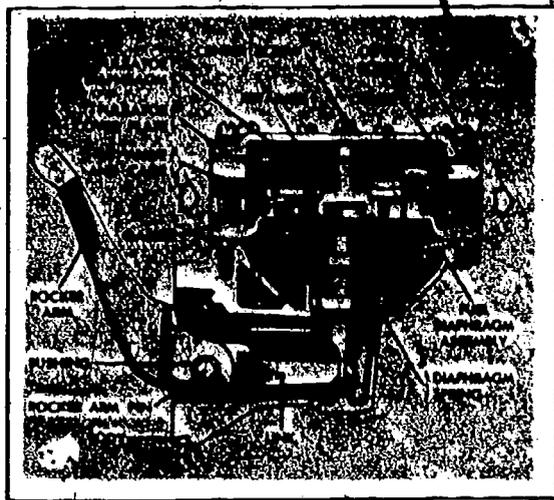

Fig 2-11. Nonpositive diaphragm fuel pump, sectional view.
- (3) Fuel pump (fig 2-11). If the fuel supply tank is too low for the fuel to flow by gravity with sufficient pressure to the carburetor, a fuel pump is used to draw the fuel from the tank and force it into the carburetor. Fuel pumps are classified as positive and non-positive diaphragm. The positive-type pump continues to pump fuel even when not needed; the nonpositive type pump will fill the carburetor-bowl and stop when a specific pressure is reached. Most gasoline engines are equipped with the nonpositive diaphragm-type pump. A lever on the pump is in contact with a cam surface (cam lobe) on the cam-shaft. As the lever rides up and down on the cam, it pushes a diaphragm in the pump up and down. The diaphragm functions similar to the piston in the engine cylinder. When the diaphragm is down, the fuel forces a 1-way valve off its seat and fills the chamber. When the lever is released and the diaphragm is forced up by a spring, the inlet valve is forced closed and another 1-way valve allows the fuel to be forced out into the carburetor fuel line. When the pressure builds up in the line to the carburetor, the valve will remain seated and the fuel in the fuel pump chamber will hold the diaphragm to keep it from pumping more fuel. The cam and lever cause the diaphragm to draw fuel in and spring tension forces the fuel out under pressure.